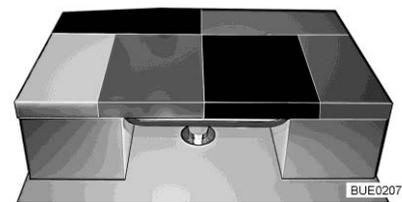

Fig. 157 After conversion
- Place the additional cushion on the table (see Fig. 157). When doing this, put the angled cushion side of the in touch with the lateral seat of the L-seating group.